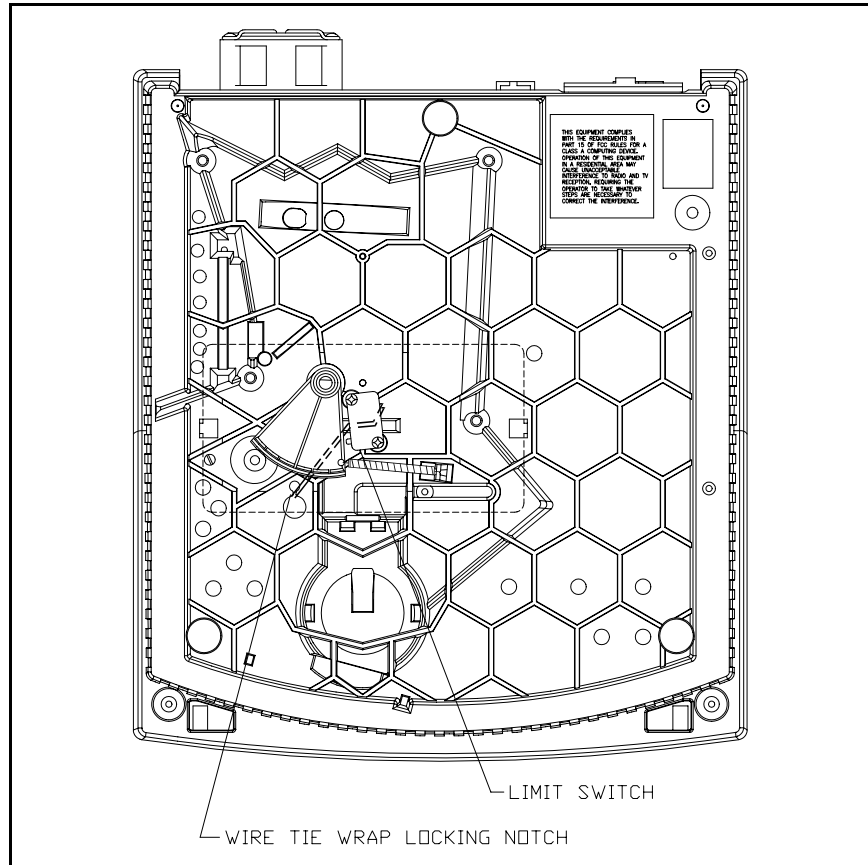

Figure 9.12 - Genesys 20: Bottom View
7. Locate the limit switch in position. Make sure the wires are routed under the switch and spring. The tie wrap on the wires must be trapped under the locking notch as indicated in Figure 9.12 after the wire is fed through the hole in the base assembly.